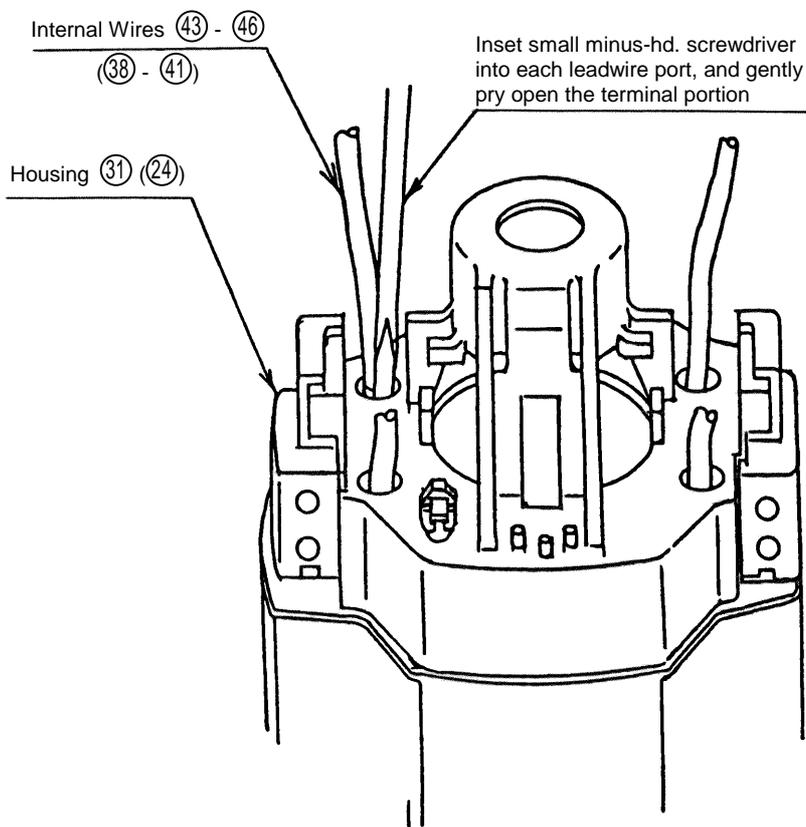
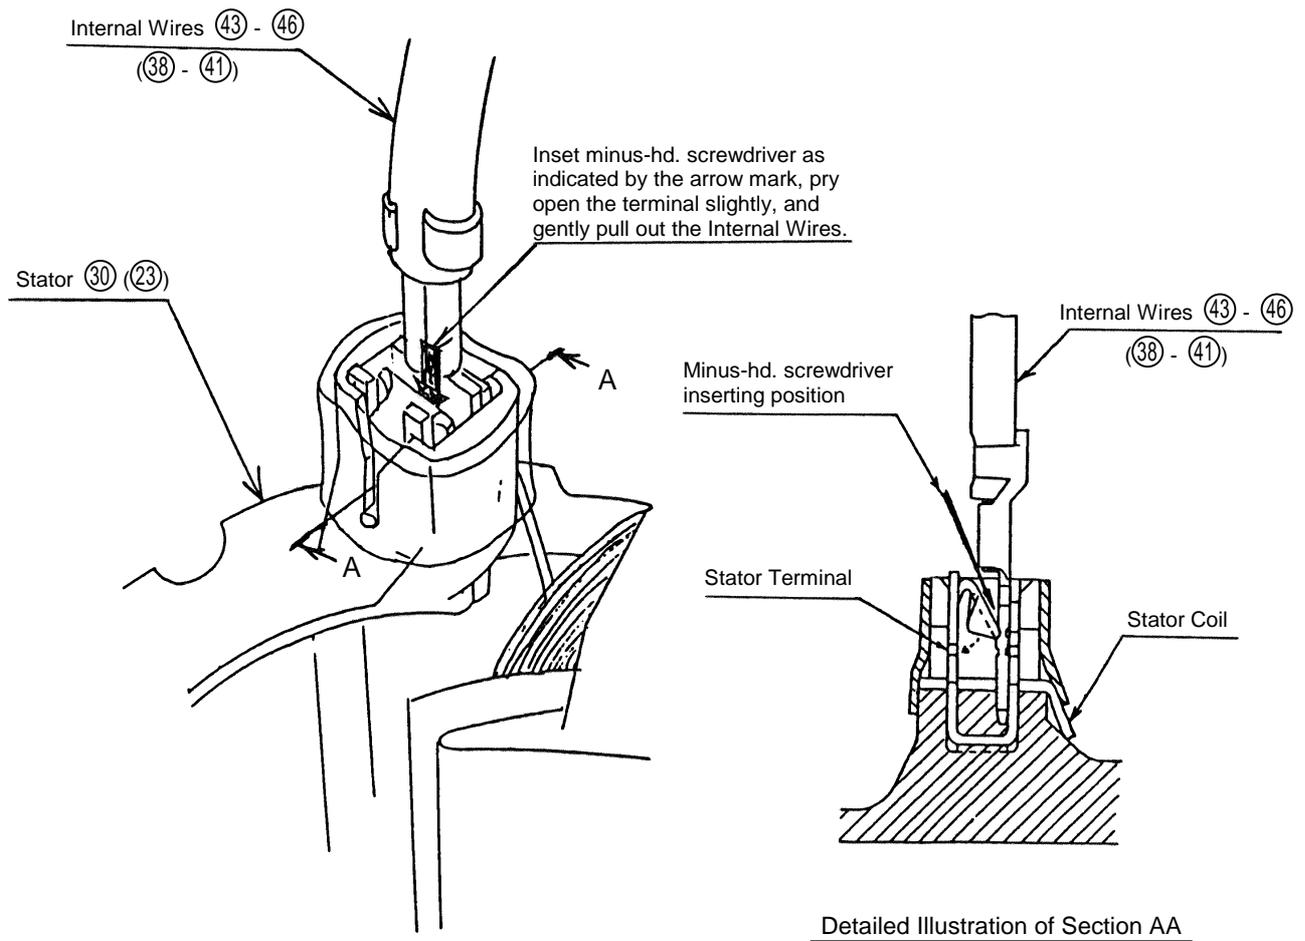

Fig. 7
Fig. 8
Without taking out the Stator, insert a small minus-hd. screwdriver through each of the leadwire ports of the Housing as illustrated in Fig. 7, and as illustrated in Fig. 8, gently pry open the terminal portions so that the Internal Wires can be slowly withdrawn. At this time, be very careful not to excessively pry apart the terminal portion. When assembling new Internal Wires, insert them through the four ports of the Housing and into the terminals of the Stator (Refer to Para. 1-2-7-(4)).
On models which are equipped with a noise suppressor, first cut off the two Tubes (D) (47) (42) where the leadwires from the noise suppressor are joined to the internal wires from the Stator. Next, lightly tap the inner cover side of the Housing with a plastic hammer to loosen and remove the Stator. Then as illustrated in Fig. 8, use a small minus-hd. screwdriver to release the Internal Wire terminals, and gently pull them out. After a new Stator (30) (23) has been assembled into the Housing (31) (24), insert the four Internal Wires (43) - (46) (38) - (41). (Refer to Para. 1-2-7-(4)).